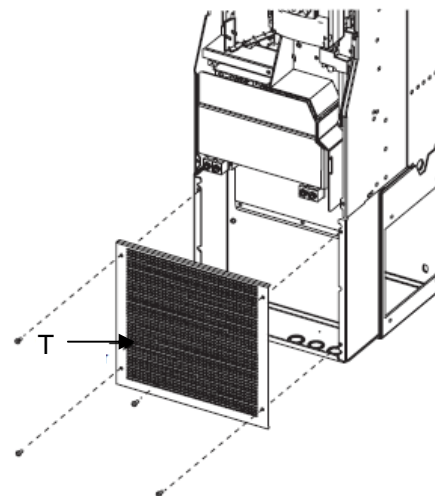

Figure 17
Step10: Install the conduit box cover (T) with M4 screws. See figure 17.